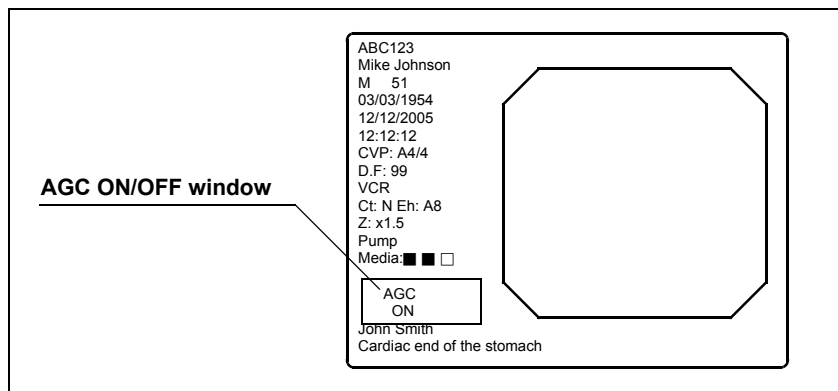

Figure 5.33
1. The AGC function is turned ON and OFF alternately each time the “F6” key is pressed. The AGC status, ON or OFF, is displayed on the monitor for about 2 seconds (see Figure 5.33).